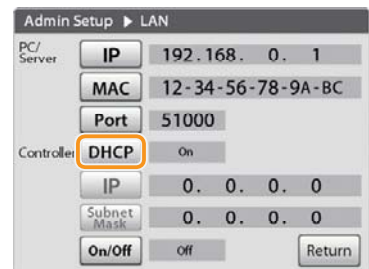

Figure 3-103
1. Tap [DHCP] of [Controller]. (Figure 3-103)